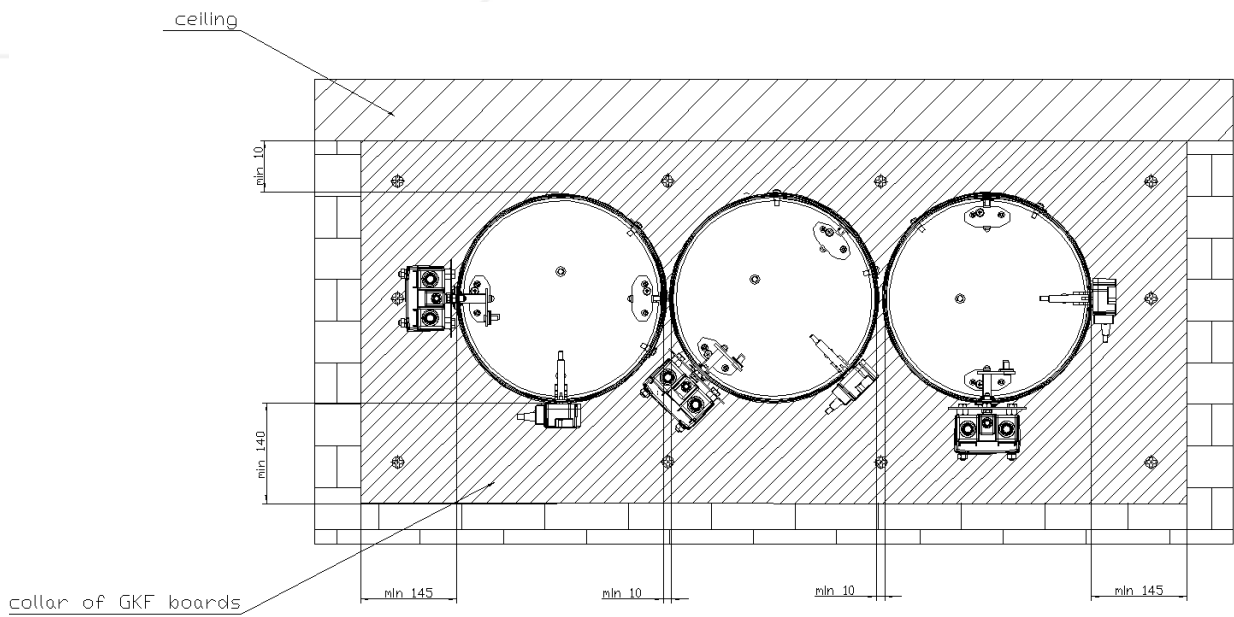

Figure 22. Installation method of KTM-O with minimum distances from adjacent fire dampers and from the ceiling.
- Install using screws, on the actuator side a collar made of GKF boards 15 mm thick with the resulting dimensions (Fig. 22, 24, 26, 28) depending on the number of fire dampers and the distance from the ceiling and/or wall (with the opening for the fire dampers). For simple assembly, the frame can be made of two parts.
- Install using screws, on the actuator side a collar made of GKF boards 15 mm thick with the resulting dimensions (Fig. 22, 24, 26, 28) depending on the number of fire dampers and the distance from the ceiling and/or wall (with the opening for the fire dampers. For simple assembly, the frame can be made of two parts.
- g. Install using screws, on the actuator side a collar made of GKF boards 15 mm thick with the resulting dimensions (Fig. 22, 24, 26, 28) depending on the number of fire dampers and the distance from the ceiling and/or wall (with the opening for the fire dampers. For simple assembly, the frame can be made of two parts.